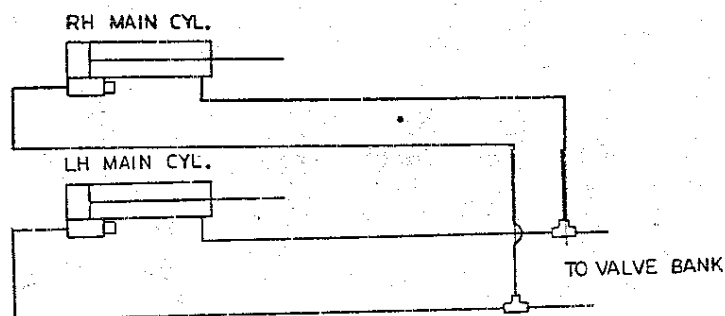

Fig. C-21
** See Fig. C-21 for plumbing main cylinder with cartridge valve.